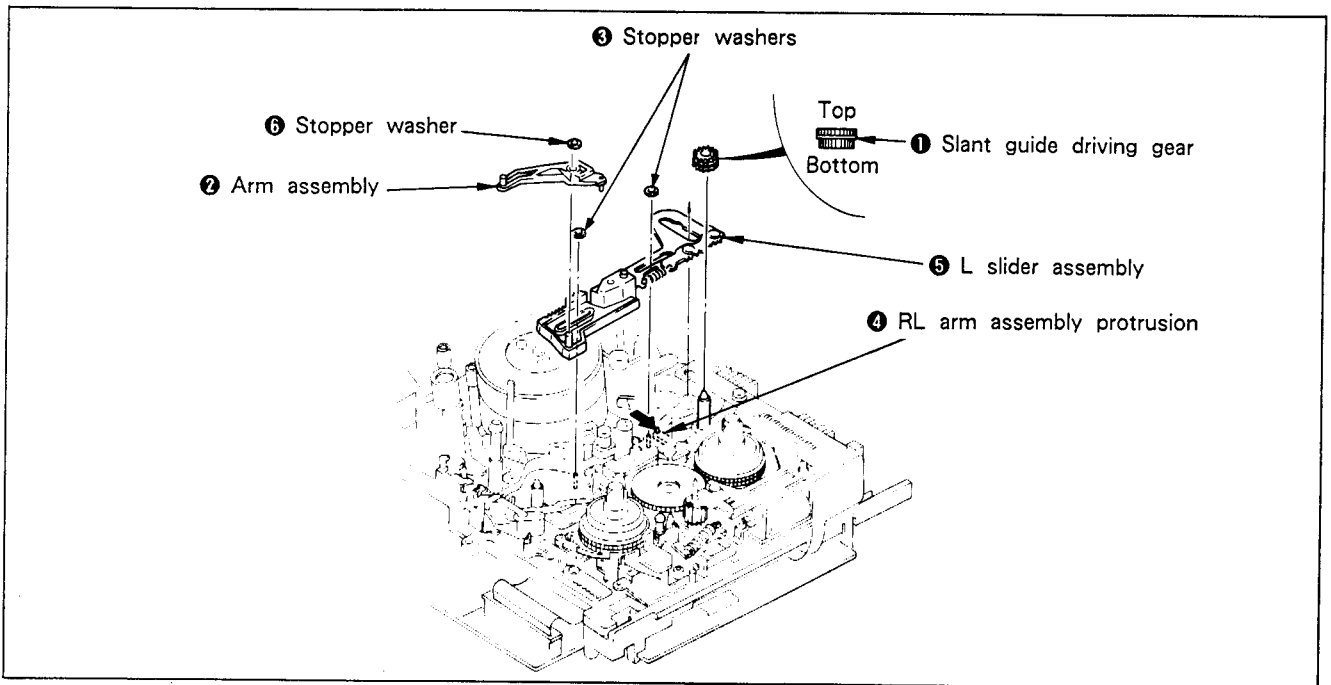

Fig. 7-30.
#### 1. Removal (See Fig. 7-30.)
- 2) Mount the arm assembly ② and fix the stopper washer ⑥. (See Fig. 7-30.)